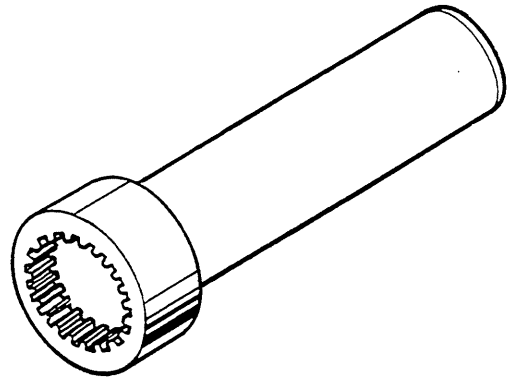

Fig. 30
- Sleeve, No. 3378004 M1 (Fig. 30)